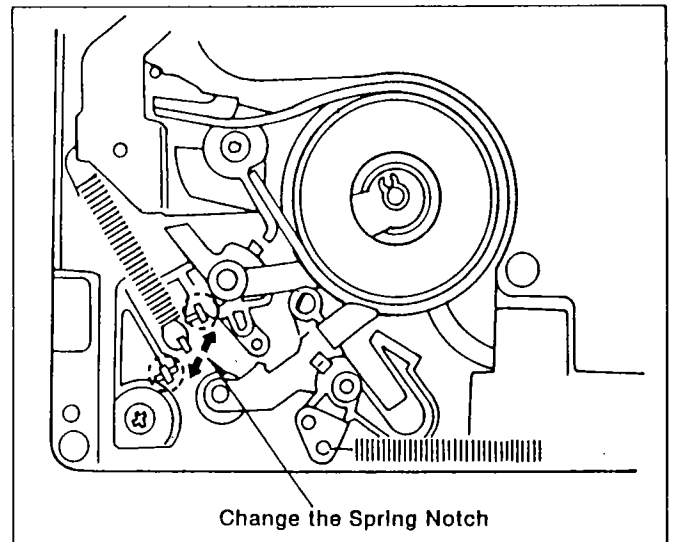

Figure M29
3. If it is out of specification, change the spring notch as shown in Figure M29.